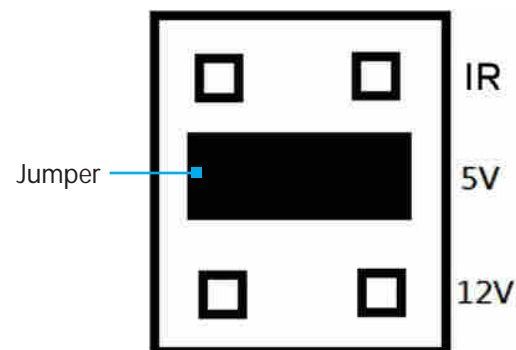

Figure 1
4. Position the **Jumper** over the set of **Pins** that correspond with the desired **Serial Connector Power Setting**. See *Figure 1* to determine where the **Jumper** should be positioned.